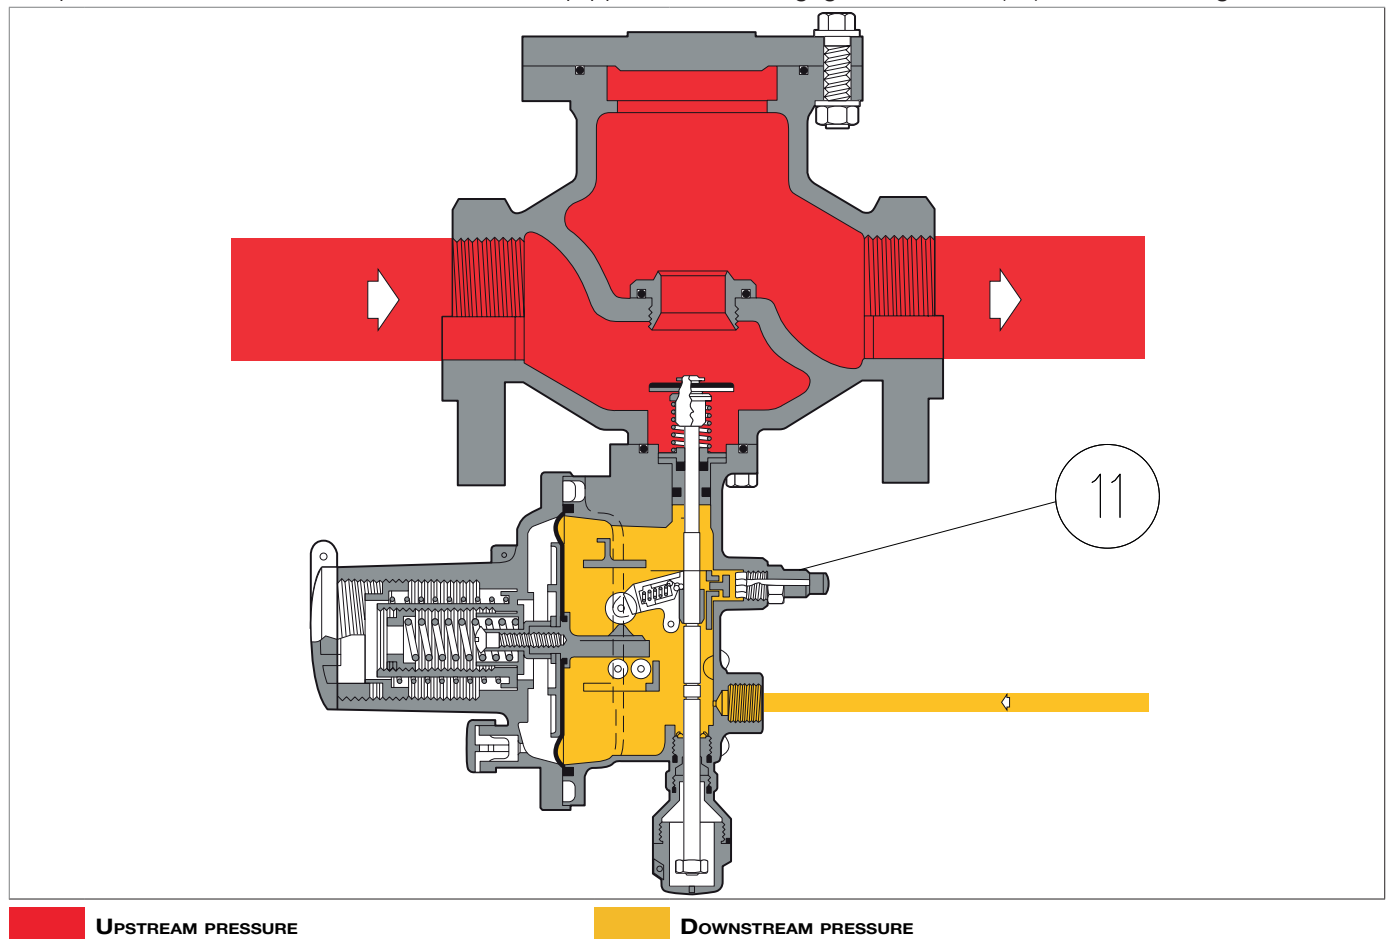

Fig. 1.3. Disengagement button for DILOCK 108
- pull the reset knob (2) downwards until the lever mechanism is reengaged
- wait for the upstream pressure (P_u) to pass downstream of the pad (1), balancing it
- press the reset knob (2) into its seat.
The pressure switch for model DILOCK 108 is equipped with a disengagement button (11) as shown at Fig. 1.3: